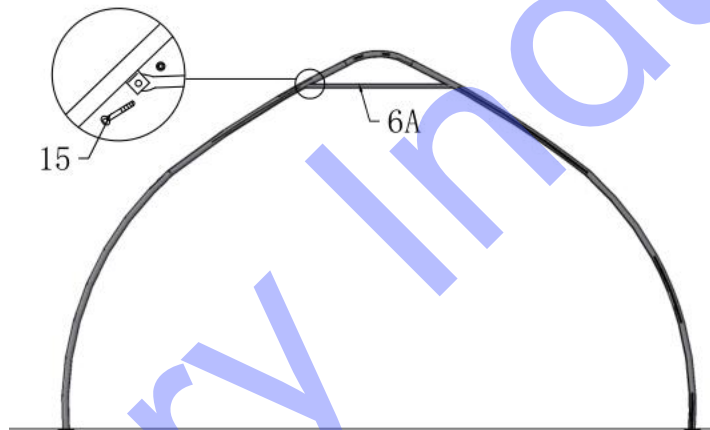

Figure 4
2. As Figure 4 shown to fix Roof Support Tube (No.6A) by using Bolt M10x20mm (No.15).